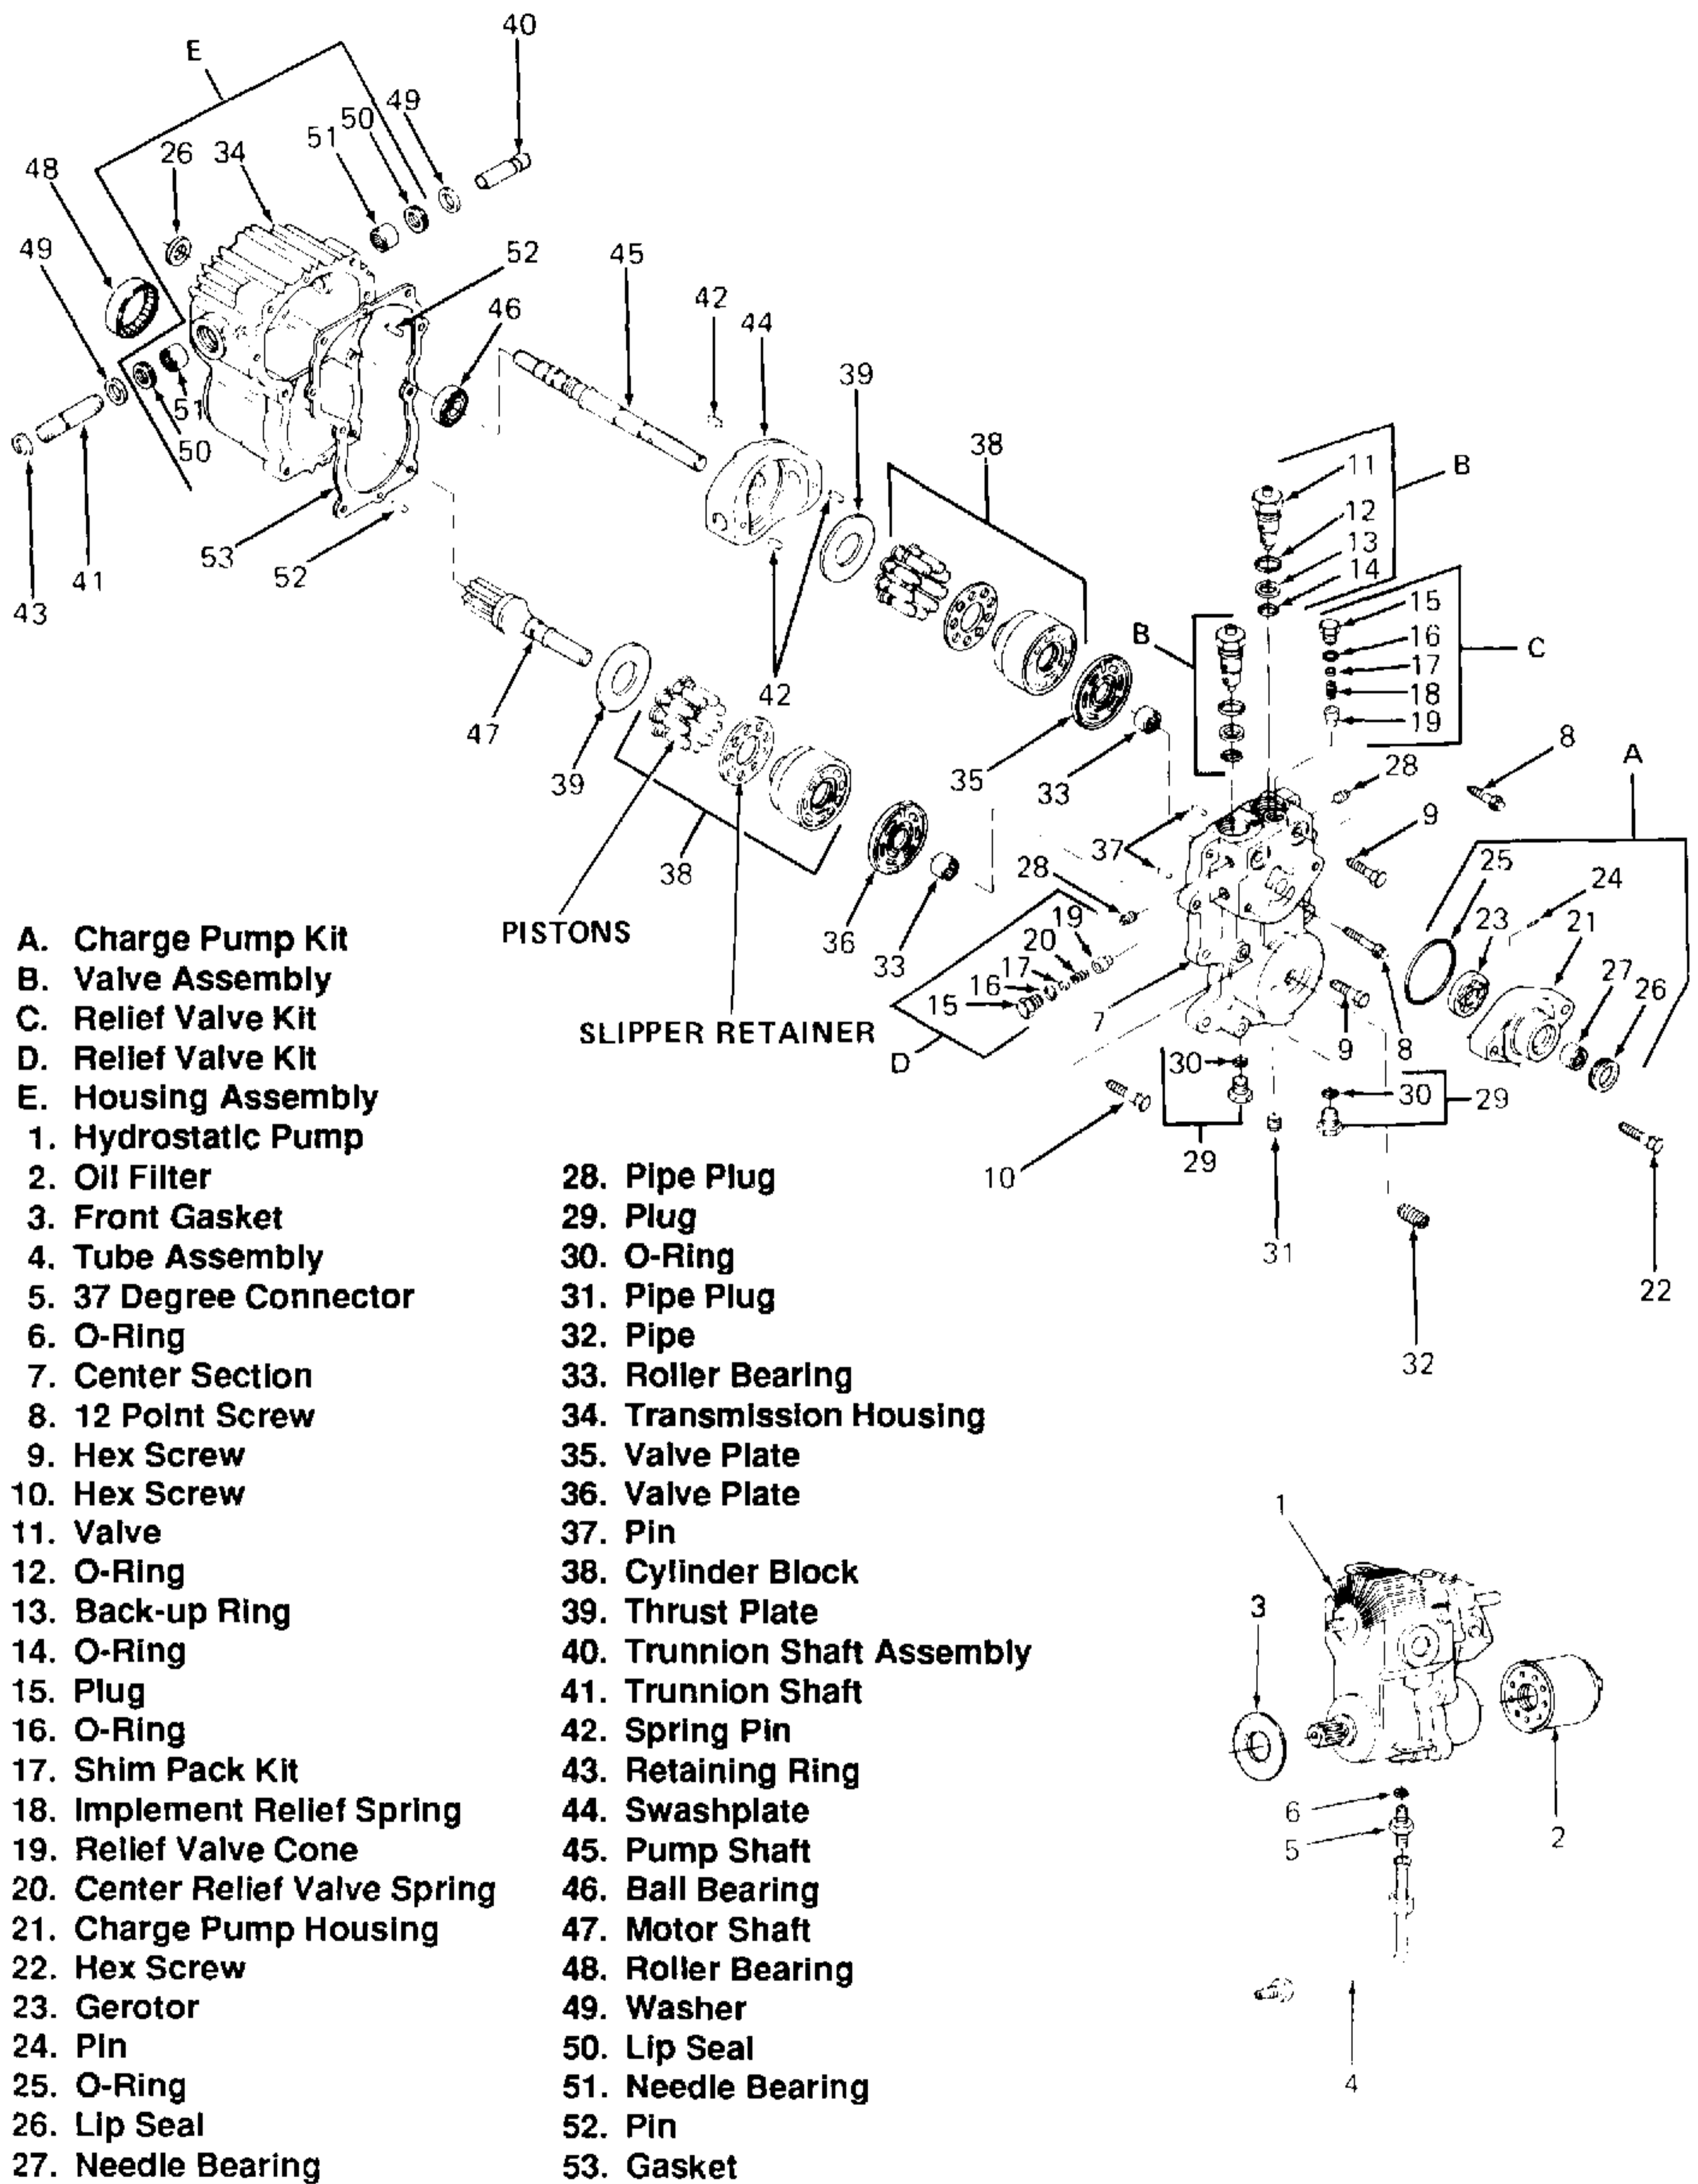

Figure 5-85. Hydrostatic Transmission (Models 1541 and 1862).
4. Place a pan under tube assembly (4, Figure 5-85) to collect oil. Loosen tube assembly by removing compression nut and rotate tube out of way.
5. Remove oil filter (2).
6. Remove four hex patch lock bolts which secure hydrostatic pump (1) to adapter housing. Lift pump out of tractor.
- c. Disassemble trunnion shafts (40 and 41, Figure 5-85) as follows:
(3) Remove retaining ring (43, Figure 5-85) and trunnion shafts (40 and 41).
- d. Remove swashplate (44) and drive out remaining pin (42).
- e. Remove pump shaft (45) and ball bearing (46).
- f. Remove and discard lip seal (26).
- g. Remove motor shaft (47) and roller bearing (48).
- h. Remove washer (49), lip seal (50) and needle bearing (51). Discard seal.
- i. Remove pins (52) and gasket (53). Discard gasket.
- 7. Inspect cylinder blocks (38, Figure 5-85 and 1, Figure 5-81) as follows:
- f. Position swashplate (44) in transmission housing (34).
- (1) Install trunnion shafts (40 and 41) and retaining ring (43).
- (2) Secure trunnion shaft (41) to swashplate (44) with one pin (42). Secure trunnion shaft (40) to swashplate with two pins (42).
- h. Install thrust plate (39) on motor shaft (47) and pump shaft (45).
- i. Assemble cylinder blocks (38, Figure 5-85 and 1, Figure 5-81) as follows:
- (3) Install slipper retainer and pistons.
- (4) Install a cylinder block on motor shaft (46, Figure 5-85) and pump shaft (44).
4. Assemble center section (7, Figure 5-85) as follows: